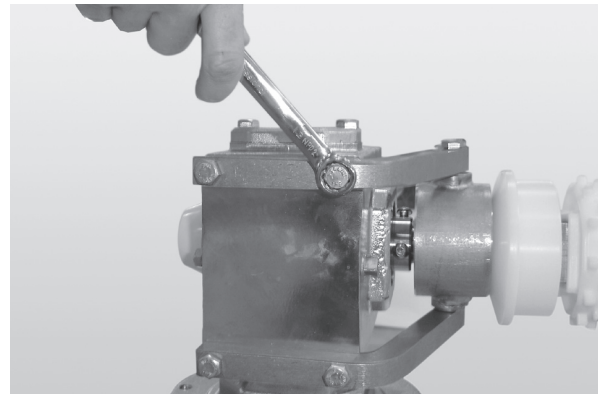

Figure 62
4. Unbolt the drive assembly and slide it off the bearing spindle (**Figure 62**).